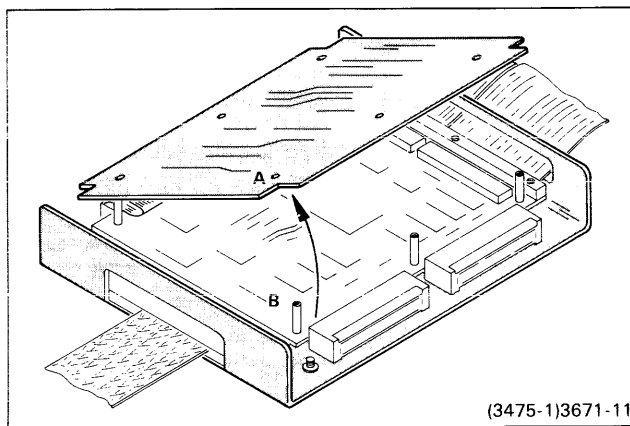

Fig. 4-3. Prototype Control Probe interface assembly; access to Driver/Receiver board "B".
4. The upper circuit board is Driver/Receiver board "A". Remove the three screws from each side of Driver/Receiver board "A", then swing the board over to the left to gain access to Driver/Receiver board "B". Refer to Fig. 4-3.